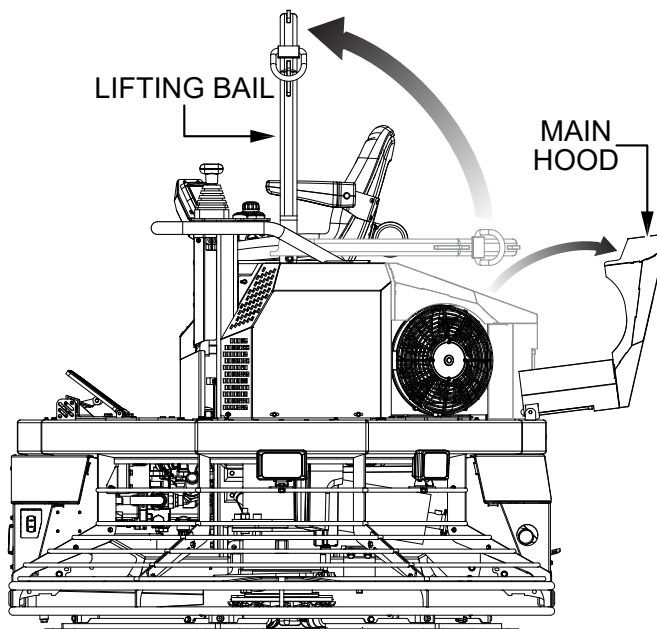

Figure 22. Lifting Bail and Main Hood
2. Raise the lifting bail and open the main hood of the trowel as shown in Figure 22.